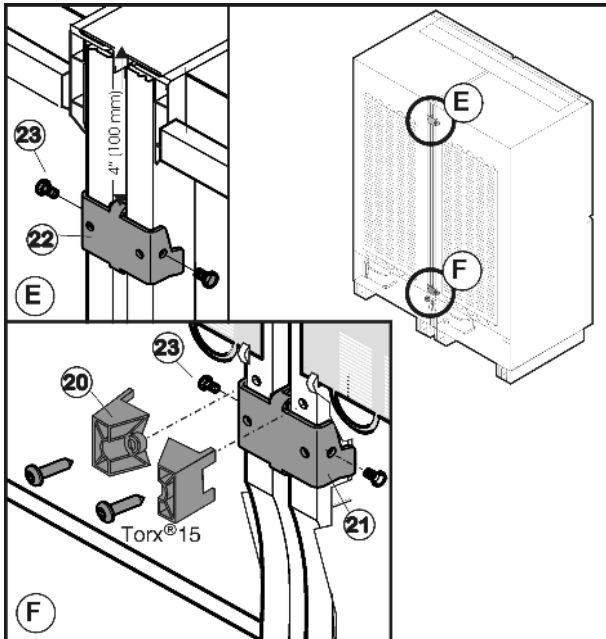

Fig. 47
- ▶ Remove the spacers Fig. 47 (20) from the lower reverse side of the appliances.
- ▶ Position the upper connecting piece and Fig. 47 (22) screw Fig. 47 (21) on from the side.
- ▶ Position upper connecting piece Fig. 47 (22) and screw Fig. 47 (23) on from the side.
- ▶ Tighten the screws Fig. 47 (23).